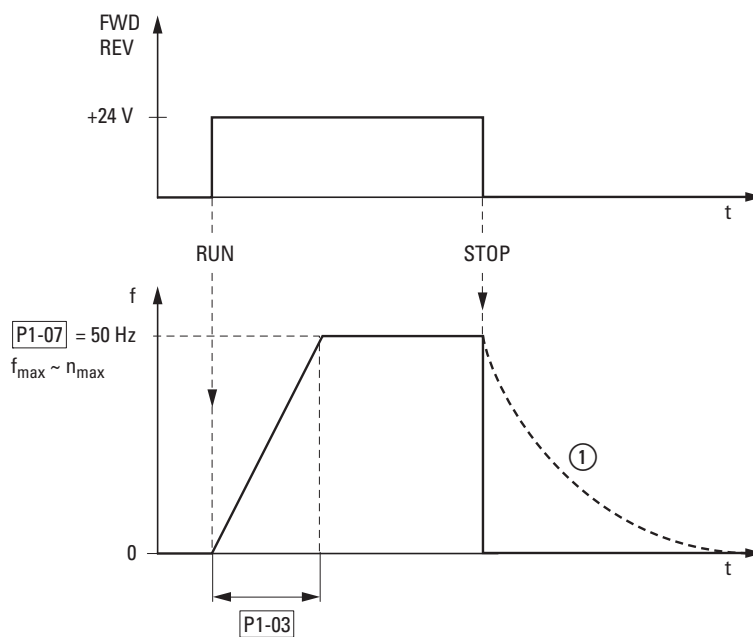

Figure 90: Start-stop command at maximum set point voltage
Figure 90 shows an example of the course when the enable signal (FWD/REV) is switched on and the maximum setpoint voltage (+10 V) is present. The speed of the motor follows the output frequency, depending on the load torque and moment of inertia (slip), from 0 to n_{max} .
If the enable signal (FWD, REV) is switched off during operation, the inverter will be disabled immediately (STOP) and the output frequency will be set to 0. The motor stops uncontrolled (see ① in Figure 90). The acceleration time is set in parameter P1-03.